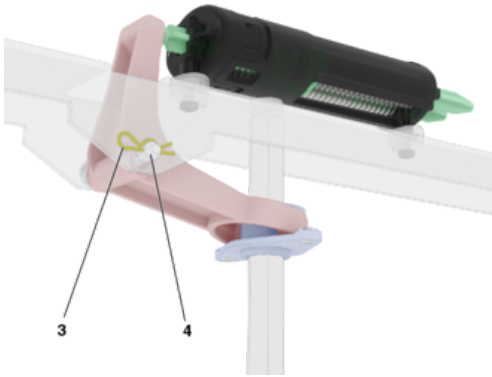

Fig. 12: Removing the bolt
2. ▶ Release the cotter pin (Fig. 12/3) and pull out the bolt (Fig. 12/4).